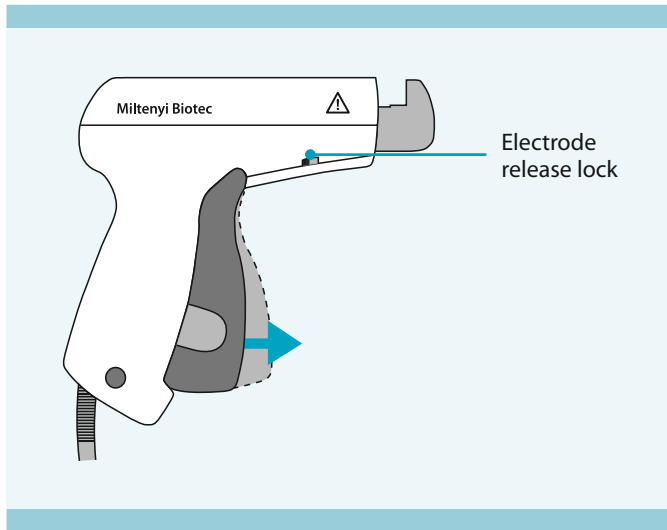

Figure 4.2: Pull the gray trigger.
1. Pull the gray trigger till “click” to release the front electrode. Then push electrode release lock forward (see Figure 4.2).